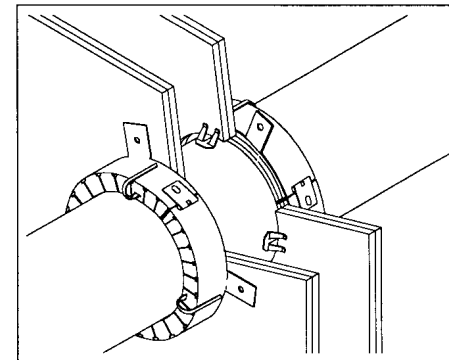

Figure 6: Gypsum wall or hollow CMU application
A. The PPD must be installed on both sides of a wall. Repeat the above steps to install the second PPD. (Figure 6)